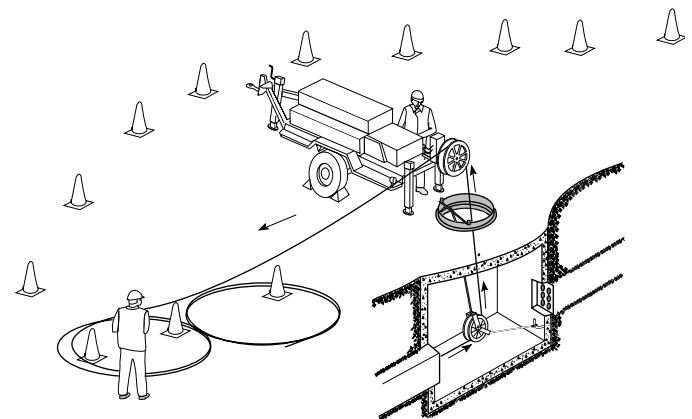

Figure 15 Pulling out cable for backfeed
5.9 "Backfeeding" may be used to provide a series of shorter, lower-tension pulls in one direction. When backfeeding, pull enough cable out of the manhole to reach the intended end point of the pull, plus racking and splicing slack. This cable should be "figure-eighted" as it emerges from the manhole (Figure 15).